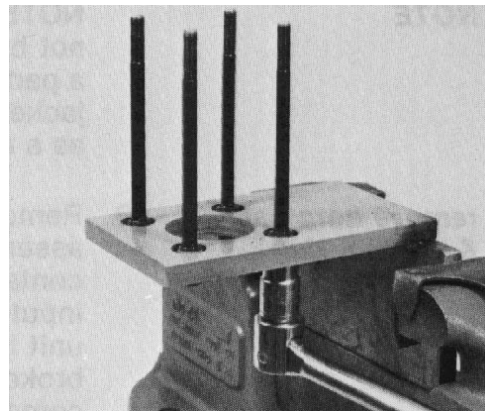

Figure 62
50. Remove the nuts holding the four bolts to the fixture, and remove the bolts (Fig. 62). Check the bolt threads for wear or damage.